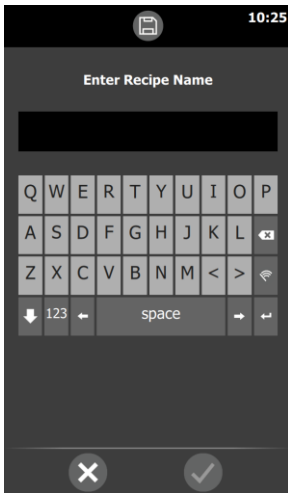

Figure 10
- The input limitations for Recipe Name shall be 2 lines with a maximum of 10 characters per line. (Figure 10)